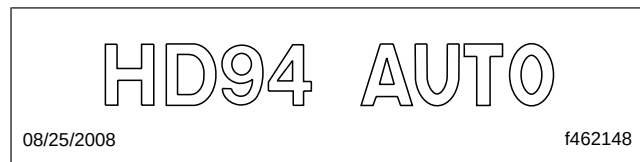

Fig. 1, Automatic Relief Plunger Identifier
2. Verify that the steering gear has automatic relief plungers. Steering gears with automatic relief plungers will have the word AUTO cast into the housing; see Fig. 1. Steering gears with automatic relief plungers also have plastic caps on the plunger bosses.